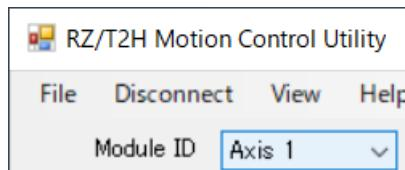

Figure 4-2 "Module ID" Drop-down List
(8) Select the control target (axis number) from the "Module ID" drop-down list (Figure 4-2).
- (14) Select the control target (axis number) from the "Module ID" drop-down list (Figure 4-2).